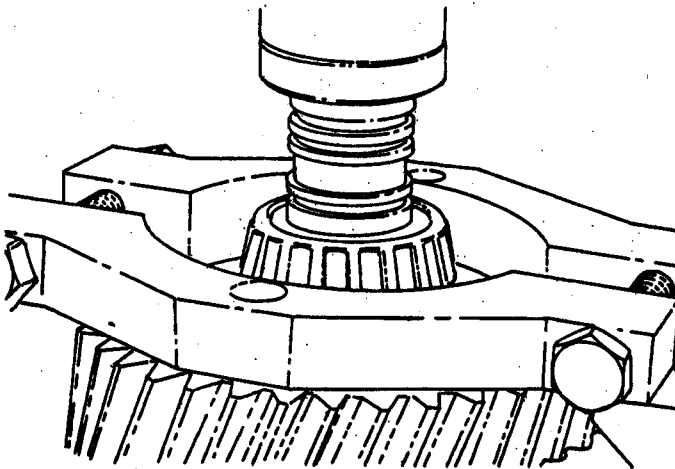

Figure 44.
2. Remove taper roller bearing (118) using collet tool and press as shown in Figure 44.